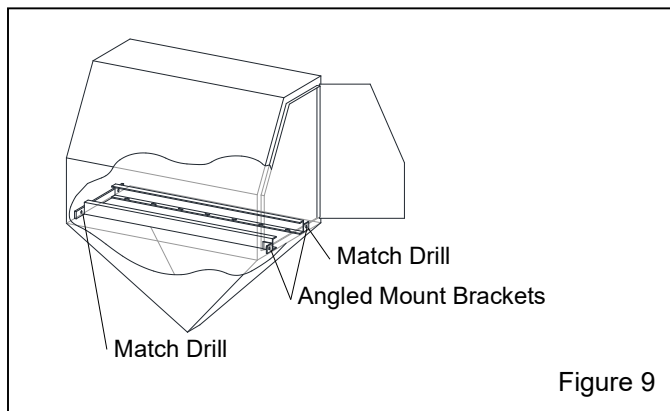

Figure 9
3.3.3 Refer to Figure 9 and center the track and table assembly inside the cabinet on top of the grate. Make sure the two angled mounting brackets are facing toward the door from which the table will slide.